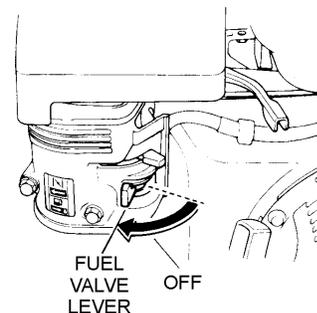

Figure 18. Fuel Valve Lever (OFF)
- Place the **fuel shut-off lever** (Figure 18) in the “OFF” position.